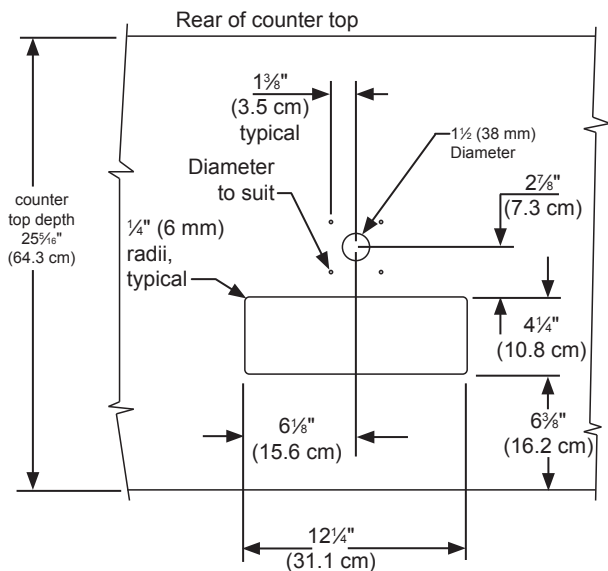

Figure 37
The cutout dimensions shown in Figure 37 are based on a 25 $\frac{5}{16}$ " (64.3 cm) deep counter top. Your counter top may be different than this and require other front to back dimensioning. Refer to the product dimensions on pages 8 and 9 when determining the required dimensions.
4. If you are installing your keg refrigerator under a counter you will need to drill 5 holes in the counter top to mount the tower. The first hole is a 1½" diameter hole located at the center of the tower for the beer line, locate approximately 13½" (34.3 cm) from the front edge of the counter top (based on a counter top depth of 25⅝"). Next drill the 4 tower mounting holes per the dimensions in Figure 37. The hole diameter is dependent on the counter top material and if screw anchors are required. The screws supplied are in the literature pack and are a #10 x 1" type AB stainless steel screw. Mark and cut the rectangular cutout for the drain sump. After the holes are drilled and the keg refrigerator is in place under the counter top feed the beer line through the tower gasket, the 1½" hole in the counter top and the hole in the top of the keg refrigerator. Mount the tower to the counter top with the 4 screws provided. Place the counter top drain sump, from the literature pack, in the rectangular hole with the radius cutout to the rear around the tower and place the grate in the sump.